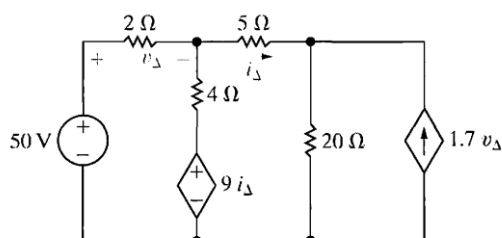

Fig 6
- a) Use the mesh-current method to determine which sources in the circuit in Fig. 6 are generating power.